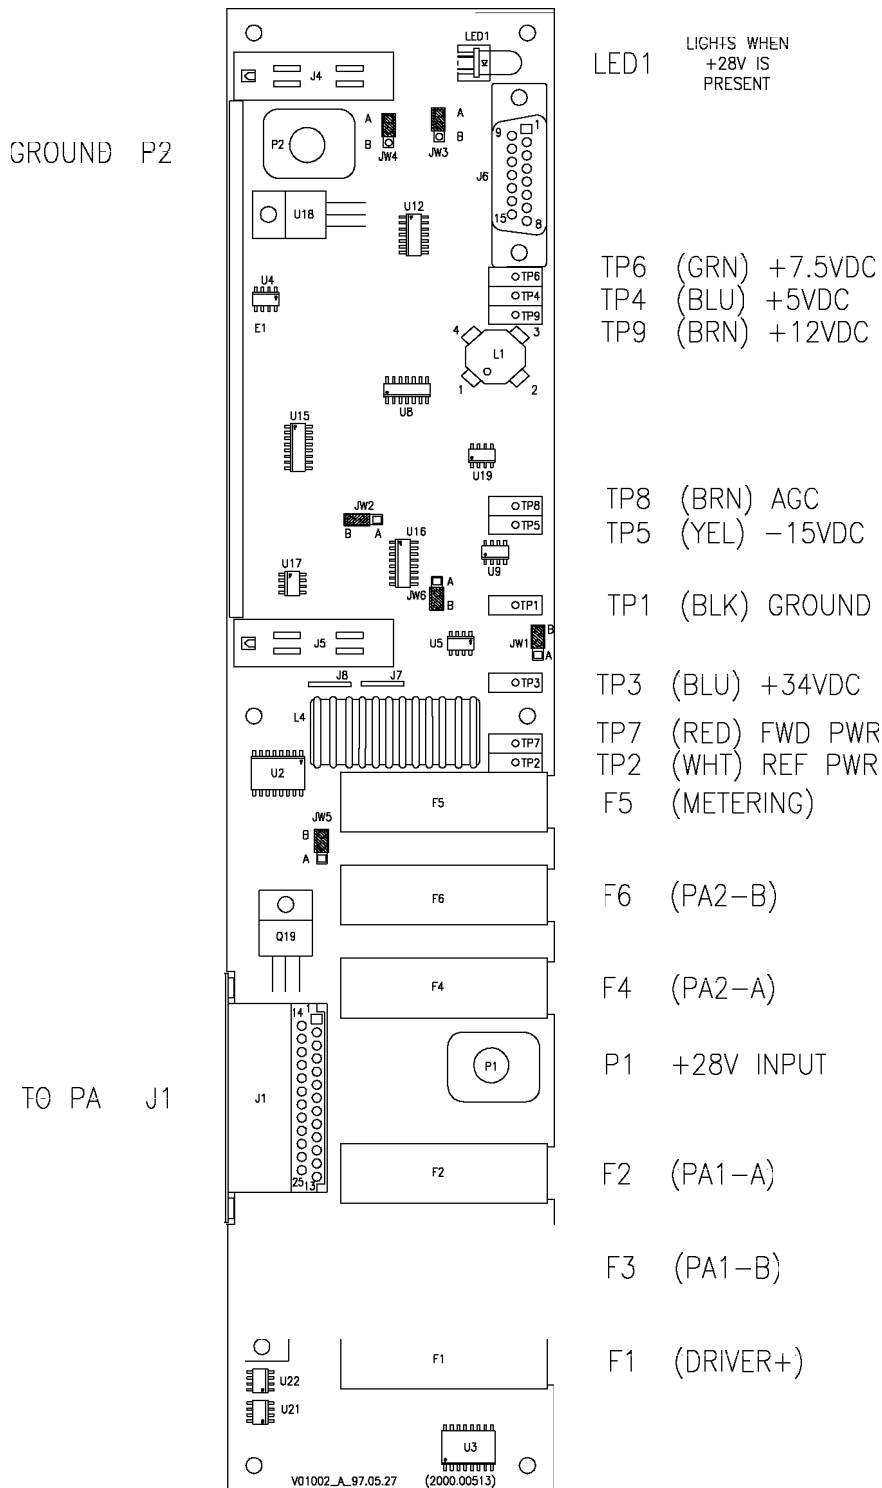

Figure 5-1 Metering Board Assembly 2000.00513/2000. 00116
- metering boards - (*Figure 5-1* and *Figure 6-5*). See *Table 4-3, Metering Board Jumper Table for Transmitter Setup*, to determine the correct part number for the model.